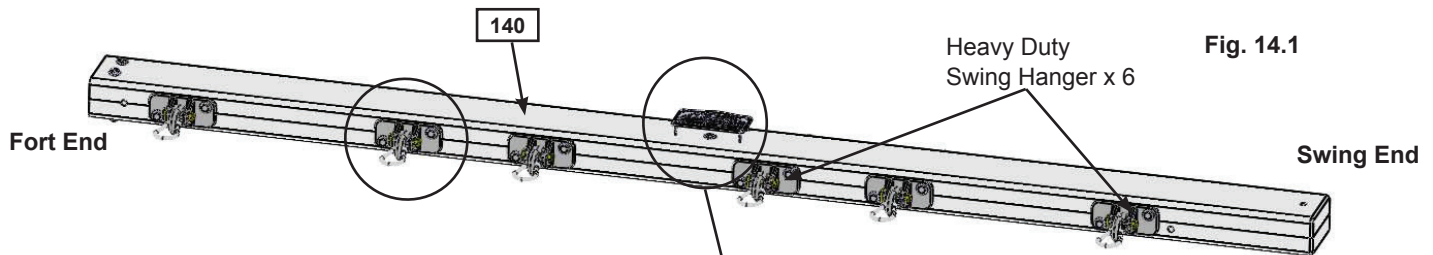

Fig. 14.1
A: Attach 6 Heavy Duty Swing Hangers to (140) Engineered SW Beam using 2 (G13) 5/16 x 6-1/8" Hex Bolt (with 2 flat washers, plastic formed washer and lock nut) per swing hanger, as shown in fig. 14.1 and 14.2.
C: Install 1 (WB7) 5/16 x 3" Wafer Bolt (with flat washer and t-nut) in the middle bolt hole, from the bottom up, in (140) Engineered SW Beam as shown in fig. 14.1 and 14.4. **IT IS IMPORTANT THAT THIS BOLT IS ATTACHED. IT WILL MINIMIZE CHECKING OF WOOD.**